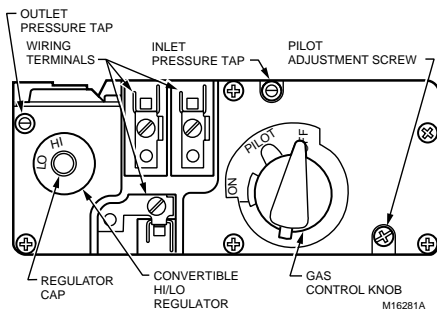

Fig. 1. Top view of a convertible High/Low combination gas control (VS8520E shown here).
2. Remove regulator cap and conversion screw. Refer to figs. 1 and 2.
1. Remove pilot adjustment cap screw. Refer to Fig. 1.
2. Loosen outlet pressure tap screw and connect pressure gauge. Refer to Fig. 1.